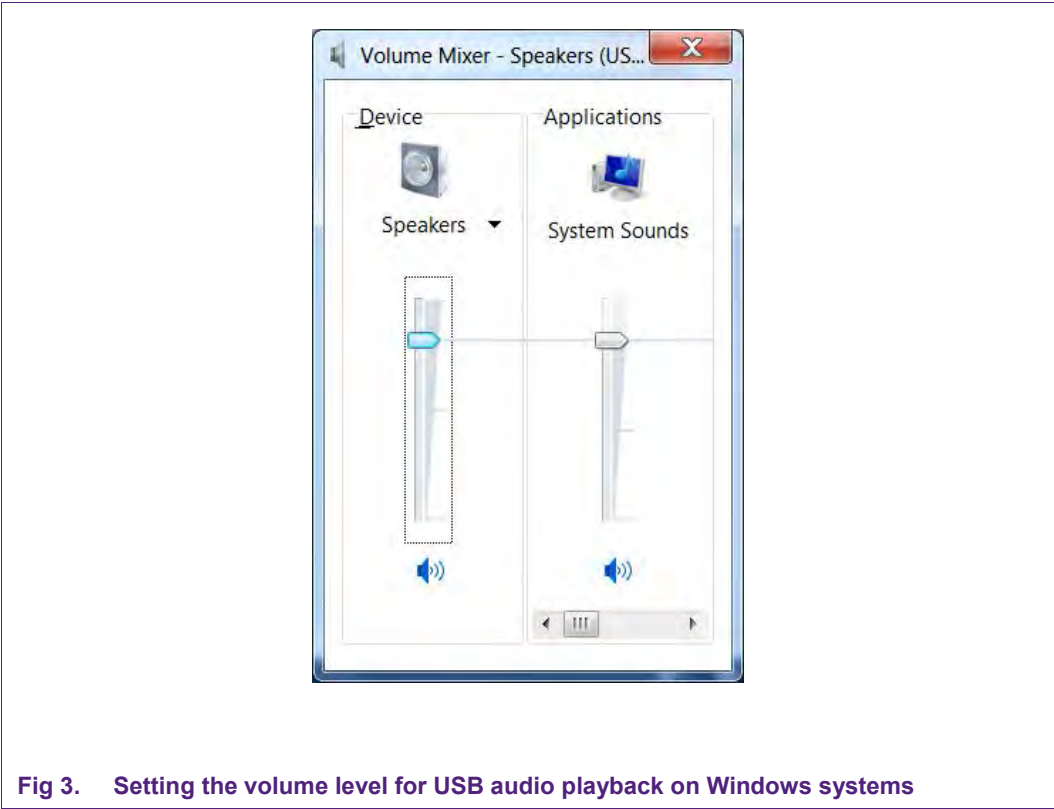

Fig 3. Setting the volume level for USB audio playback on Windows systems
- Fig 3. Setting the volume level for USB Audio playback on Windows systems 16